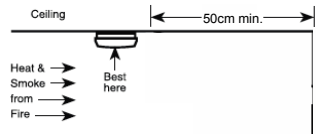

Fig. 3 – Smoke alarm location from walls
Install smoke alarms as close to the centre of the ceiling as possible, away from light fittings and air-conditioning ducts. If this is not practical, put the alarm on the ceiling, no closer than 50 cm from any wall or corner as shown in Fig. 3.
- In dead air spaces, which are often at the top of a peaked roof or in apex of ceilings and walls. Dead air may prevent smoke from reaching a smoke alarm. See Fig. 3 and 4 for recommended mounting locations.